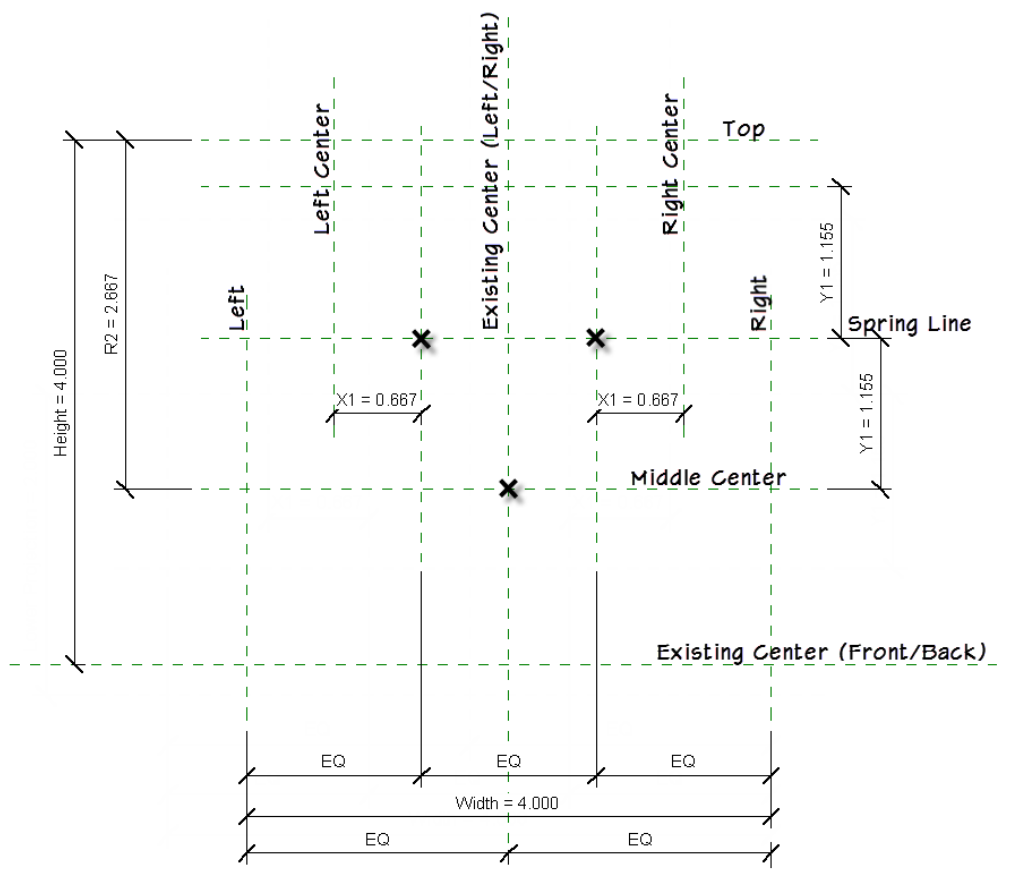

Figure 49—Create the three center arch profile family and set up reference planes and dimensions
- c. Add dimensions as shown in Figure 49.